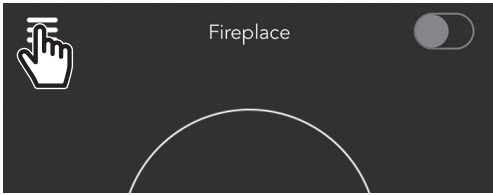

Fig. 1
3. Tap the side menu icon (Fig. 1)